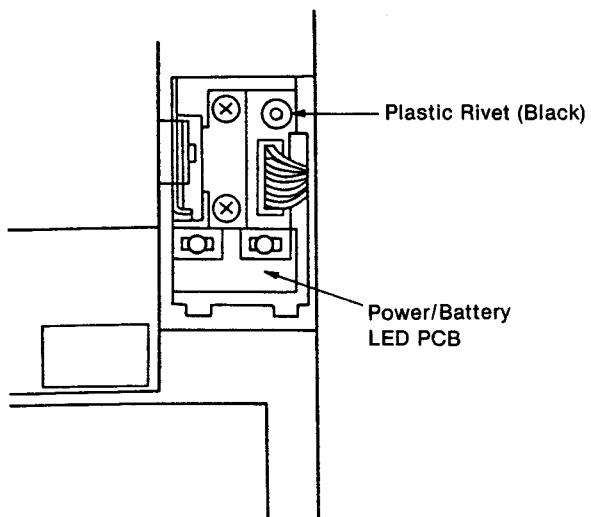
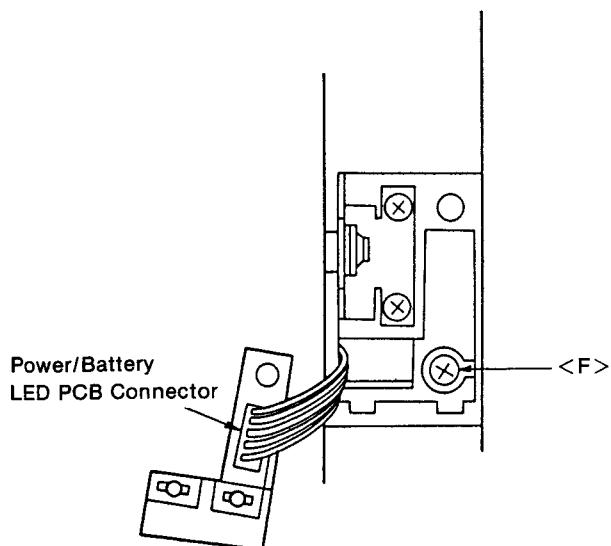

Figure 9
Figure 10
(13) Pull up the plastic rivet as shown in Figure 9 and slightly move the power/battery LED PCB so that you can access the screw <F> as shown in Figure 10.
(14) Remove one screw <F> ($3\phi \times 8\text{mm}$) as shown in Figure 10.
(15) Disconnect the connector of power/battery LED PCB as shown in Figure 10.